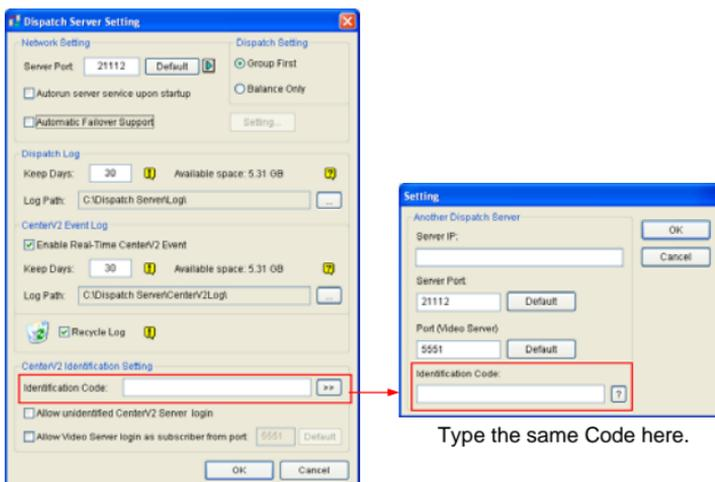

Figure 2-10
4. Click the **Add** button. The Setting dialog box (Figure 2-10) appears.